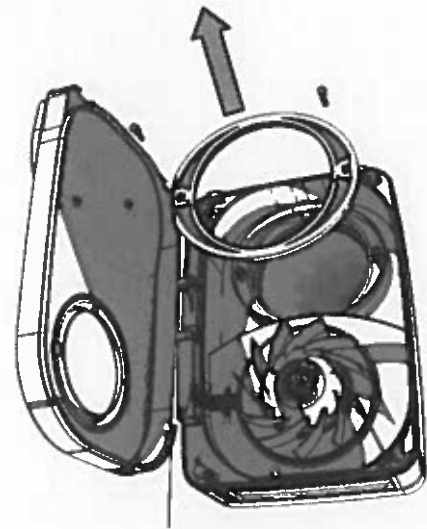

Fig.10
8) Remove screws and Heat Exchanger Retaining Clamp kit Fig 10.